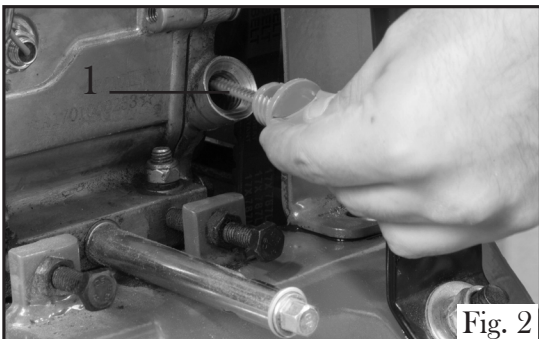

Fig. 2
2. Remove the oil filler/dipstick cap (Fig. 2 - 1) from the engine.